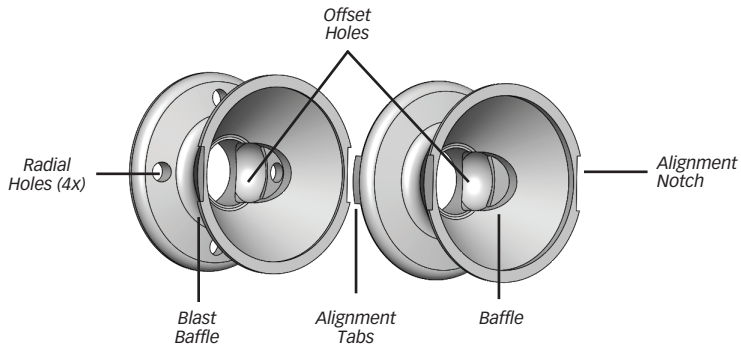
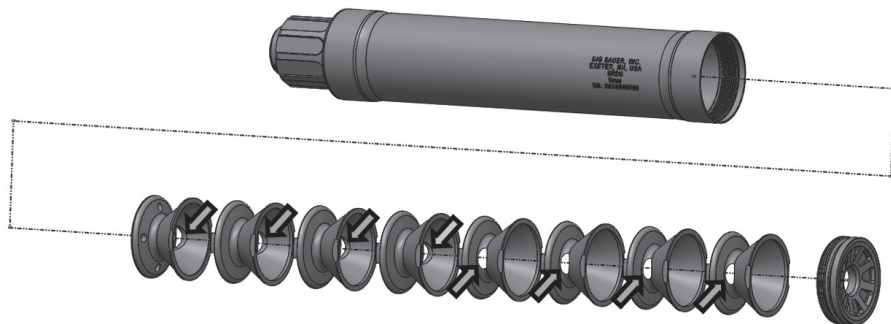
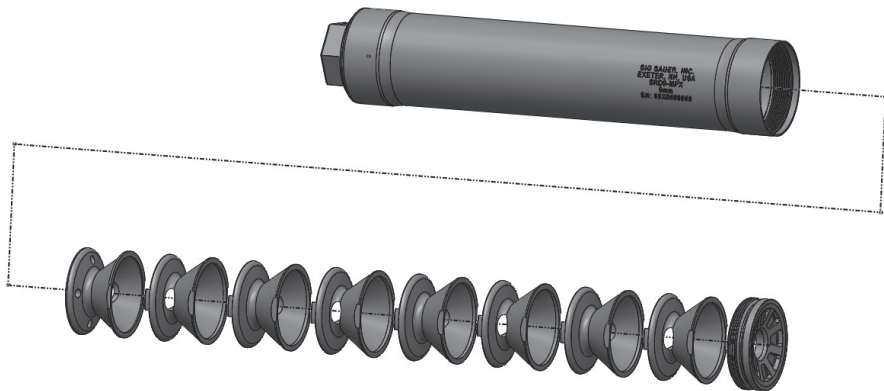
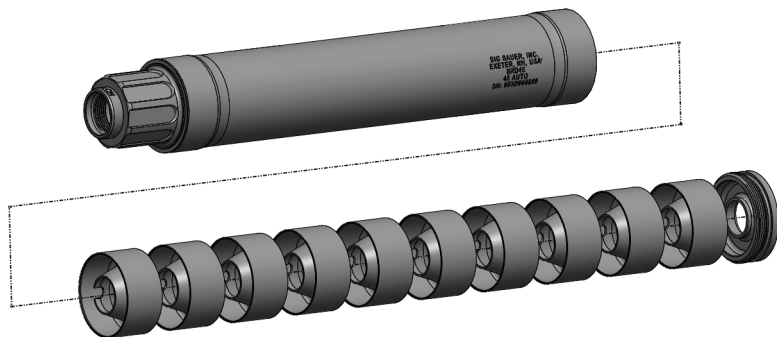

Fig 4.4a
Fig 4.4b
Fig 4.4c
Fig 4.4d
- b. Reassembly of SIG Pistol Caliber Suppressors is accomplished in the reverse order of disassembly. Ensure baffles are stacked in the same order and direction they came out of the tube. SRD9 and SRD9-MPX have one blast baffle and seven baffles. Blast baffles are identified by four radial holes while regular baffles have do not have the four radial holes. Both blast baffles and regular baffles have an offset hole next to the center hole (see Fig 4.4a). For the SRD9 the first three regular baffles are oriented with the offset holes aligned with the offset hole of the blast baffle. The next four baffles are all oriented with the offset holes opposite of the offset hole of the blast baffle (see Fig 4.4b). For the SRD9-MPX the first regular baffle is installed with the offset hole opposite of the blast baffle and the rest of the baffles alternating sides (see Fig 4.4c). The SRD45 has no blast baffle. All ten baffles are the same and have no alignment tabs or notches. The SRD45 baffles need to be reinstalled in the same direction they came out of the suppressor tube but have no radial orientation (see Fig 4.4d).